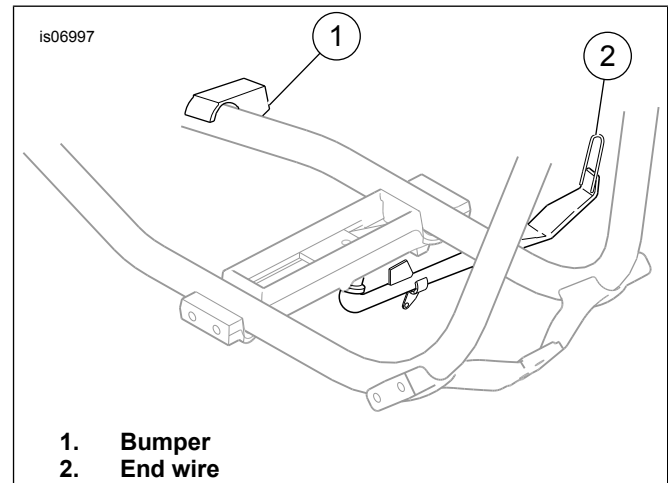

Figure 1. End Wire and Bumper
1. See Figure 1. Check the condition of jiffy stand end wire (2) and bumper (1). The end wire must be parallel to the end of the jiffy stand and in good condition. The bumper attached to the frame must be in place and in the proper orientation.